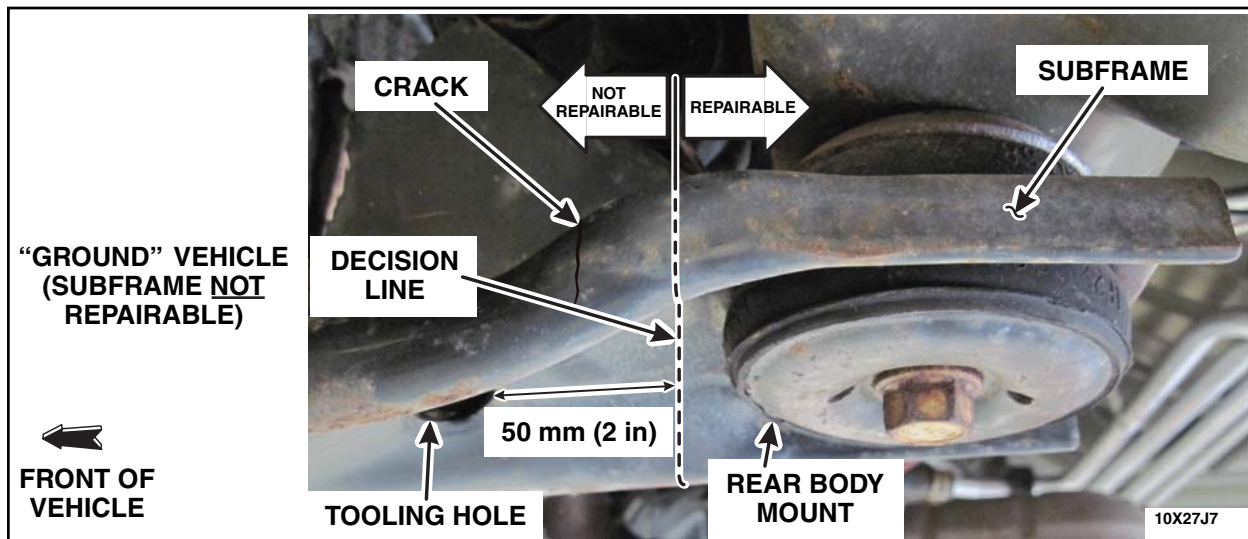

FIGURE 1
2. Inspect the driver and passenger side of the rear body mount area of the subframe for cracks, perforations, gaps and any non-factory welds or reinforcements. See Figures 1, 2, 3 and 4.